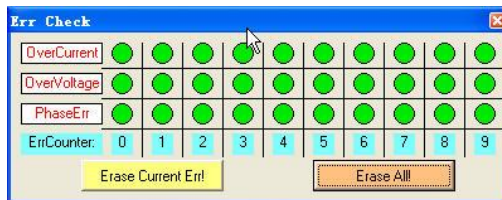

Figure 28: Error check window
- Error Check:** This window shows both the present status of each error event and their history. Current error event(s) can be reset by clicking **Erase Current Err!** button, and all error events can be reset by clicking **Erase All!** button. List of the last ten Drive faults. #0 being the most recent, #9 is the oldest. See Figure 28.